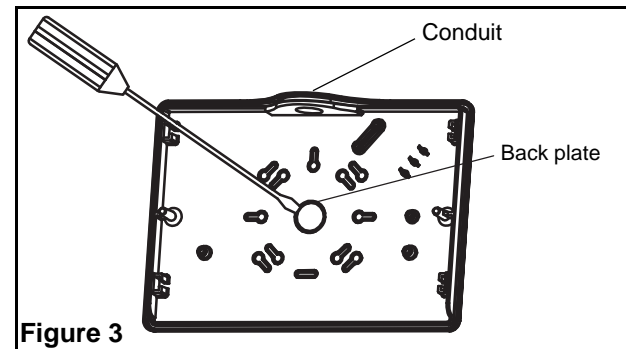

Figure 3
2. Remove the appropriate knockouts in the back plate (see figure 3).